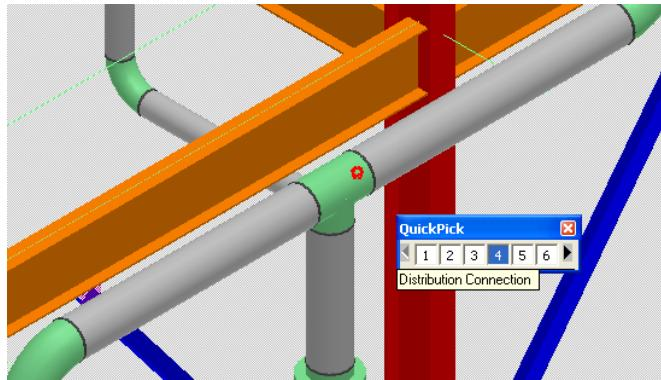

Figure 26: Selecting a Distribution Connection
3. Select **Distribution Connection** point as **Control Point Parent**, on **1001-P_Spool1**, as shown in Figure 26.